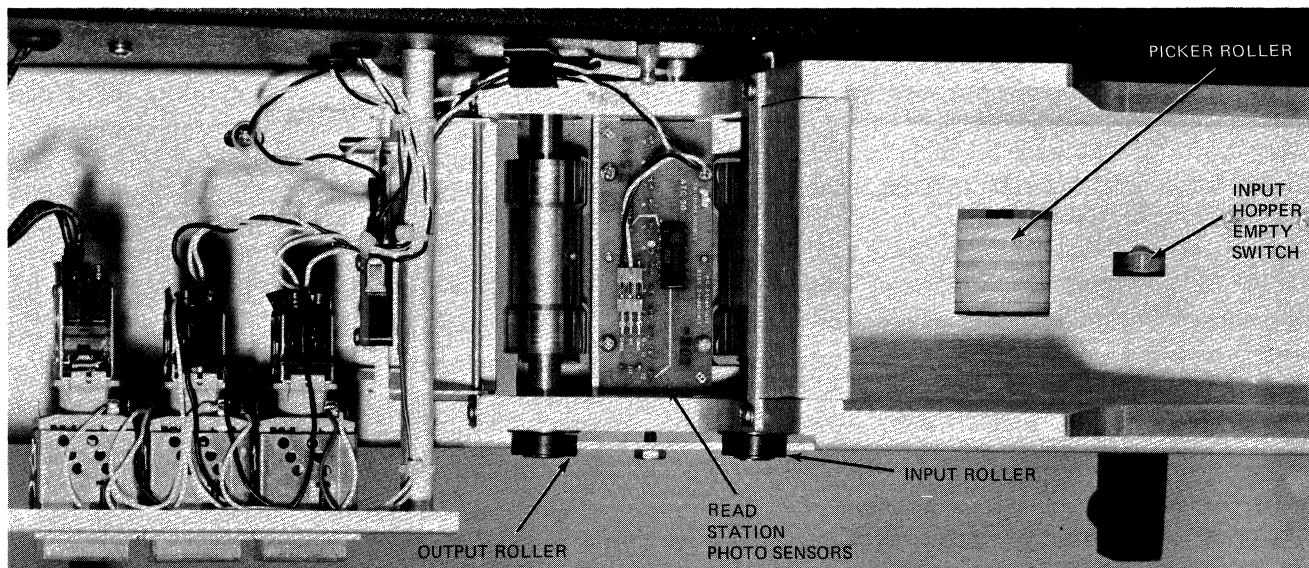

Figure 3-7. Card Reader with Housing Removed
2. Remove the front cover from the card reader as shown in Figure 3-7 to expose the mechanical assembly and card path.
The card contacting surfaces of the input hopper, including the opening under the throat gauge (see Figure 3-7) should be cleaned once a day by the operator. To perform this function:
2. Remove the front cover from the card reader (see Figure 3-7).
A periodic cleaning of the picker roller and read station (see Figures 3-7 and 3-8) should be made by the operator on a monthly basis, or more often as usage dictates. To perform this function: